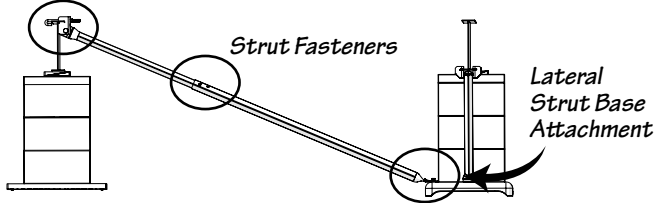

Fig. 4-2
- Secure the extended lateral strut by mounting 4 self tapping screws in the 4 holes in the outer lateral tube as shown in Fig. 4-2. Attach two screws per side.